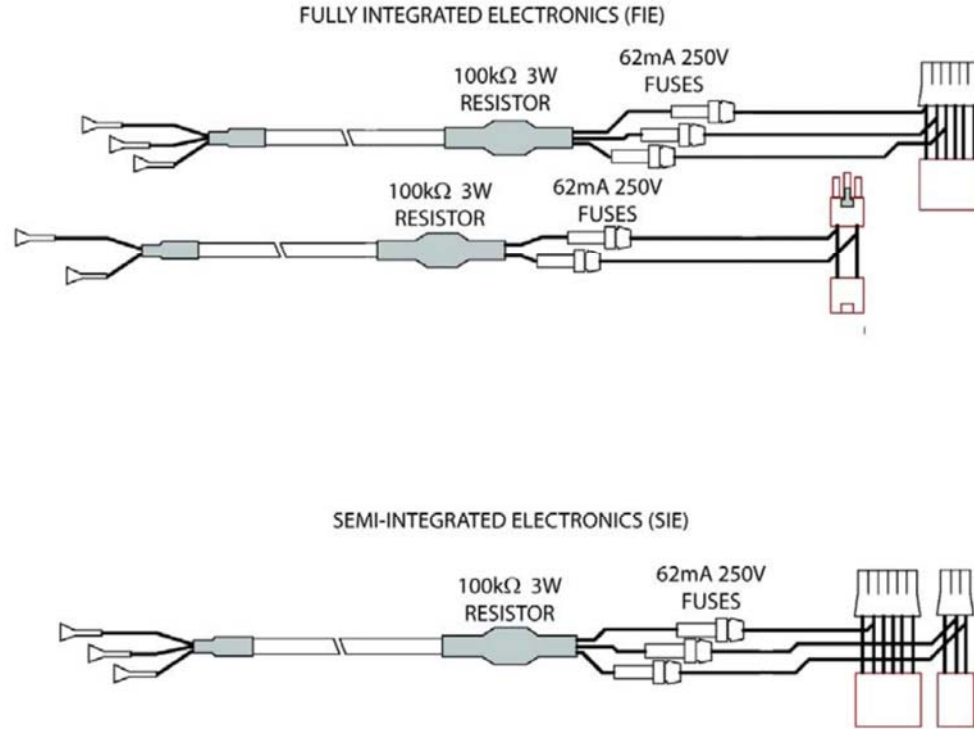

Figure 2 DC Bus Test Harness Diagram
5. Confirm integrity of the fuses/resistors in the DC Bus Test Harness by using a multimeter set to resistance. Check each cable individually (refer to Figure 2). Resistance should be approximately 100k Ω